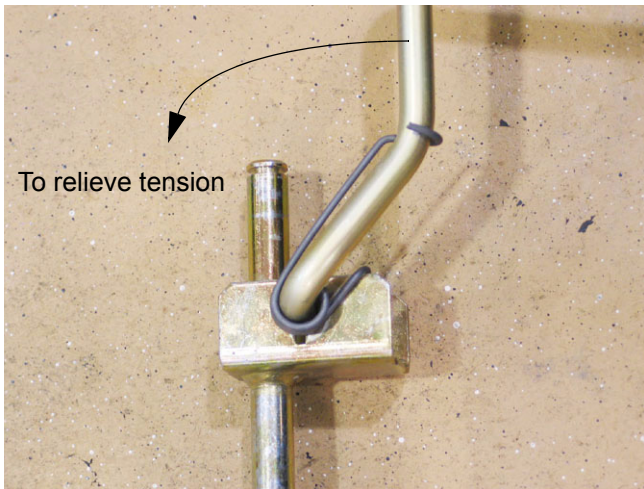

Figure 7.9
- 7.9. Rotate the lever to relieve tension from the torsion spring, and align the coiled "ears" on the lever with the slots that they pass through in the cross shaft assembly. See Figure 7.9.